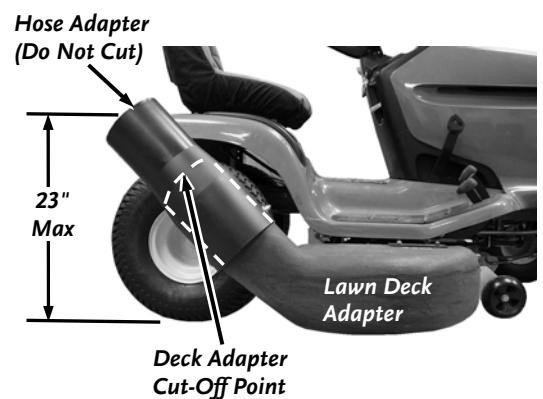

Figure 16
1. Install your Lawn Deck Adapter (**Figure 16**) onto your Lawn Tractor (Lawn Deck Adapter available from the manufacturer of your lawn tractor or from DR Power Equipment).
3. Check the distance of from the ground to the top center of your Hose Adapter (**Figure 16**). If your Adapter is less than 23" from the ground, go to step 6.